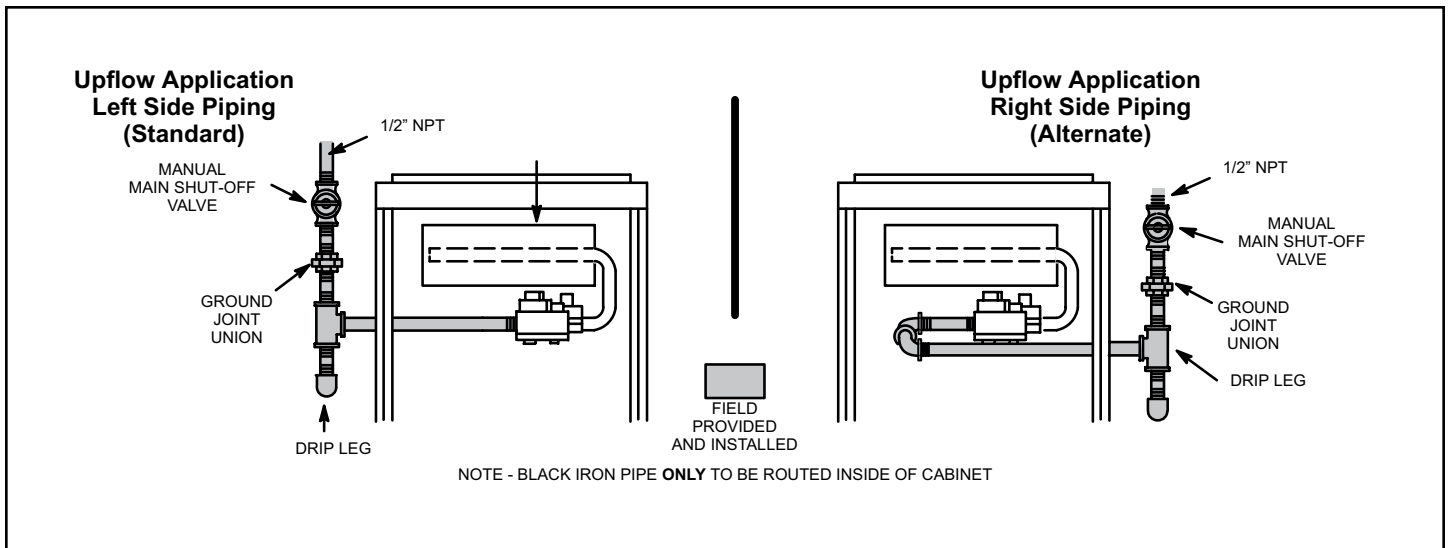
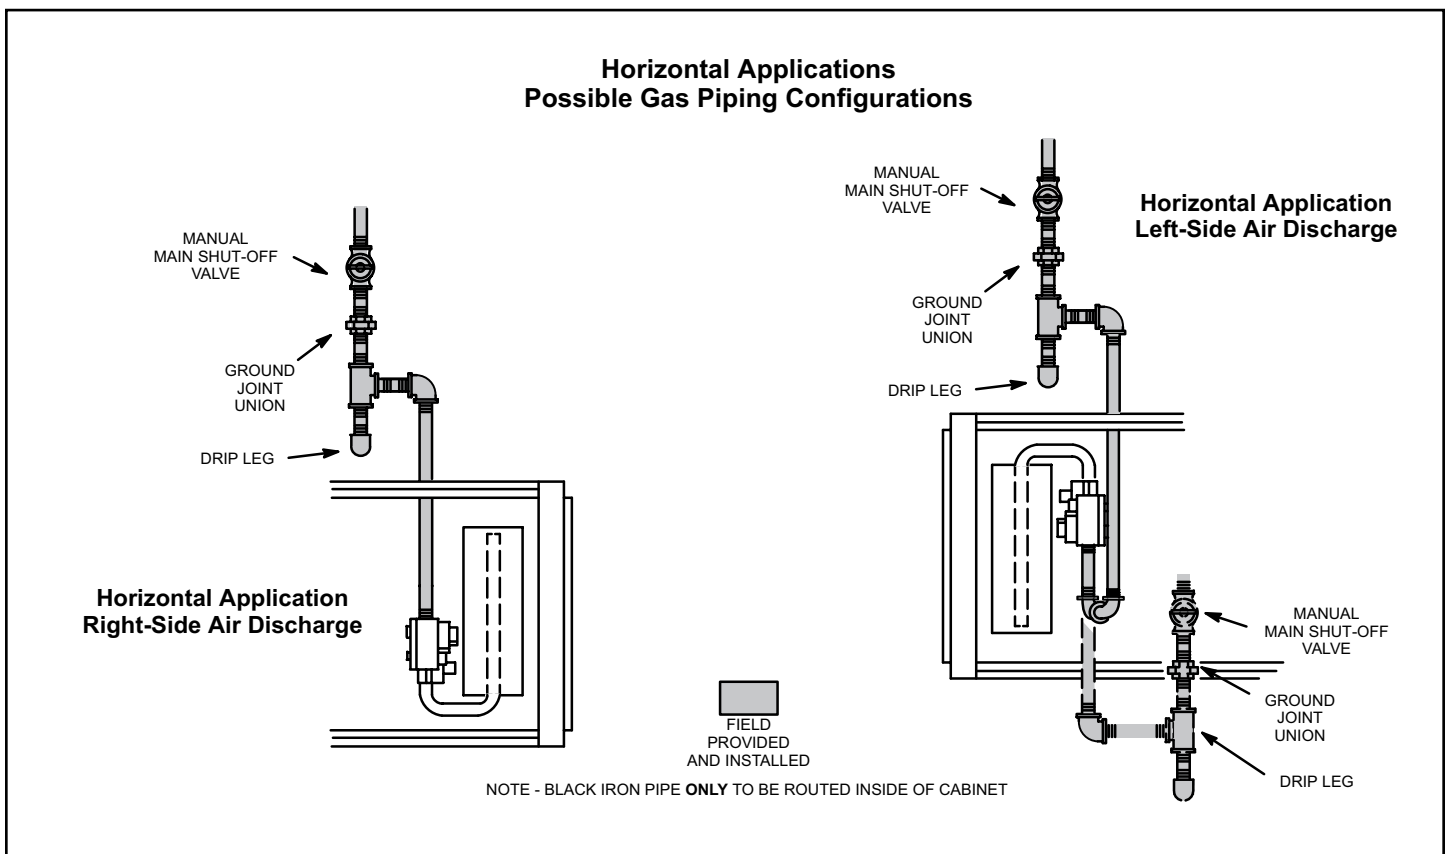

Figure 61. Gas Piping Upflow Applications
Figure 62. Gas Piping Horizontal Applications
1. Gas piping may be routed into the unit through either the left or right hand side. Supply piping enters into the gas valve from the side of the valve as shown in Figure 61. Ensure opposite gas line hole is plugged with supplied plug.
3. Gas piping must not run in or through air ducts, clothes chutes, chimneys or gas vents, dumb waiters or elevator shafts. Center gas line through piping hole. Gas line should not touch side of unit. See Figure 61 and Figure 62.